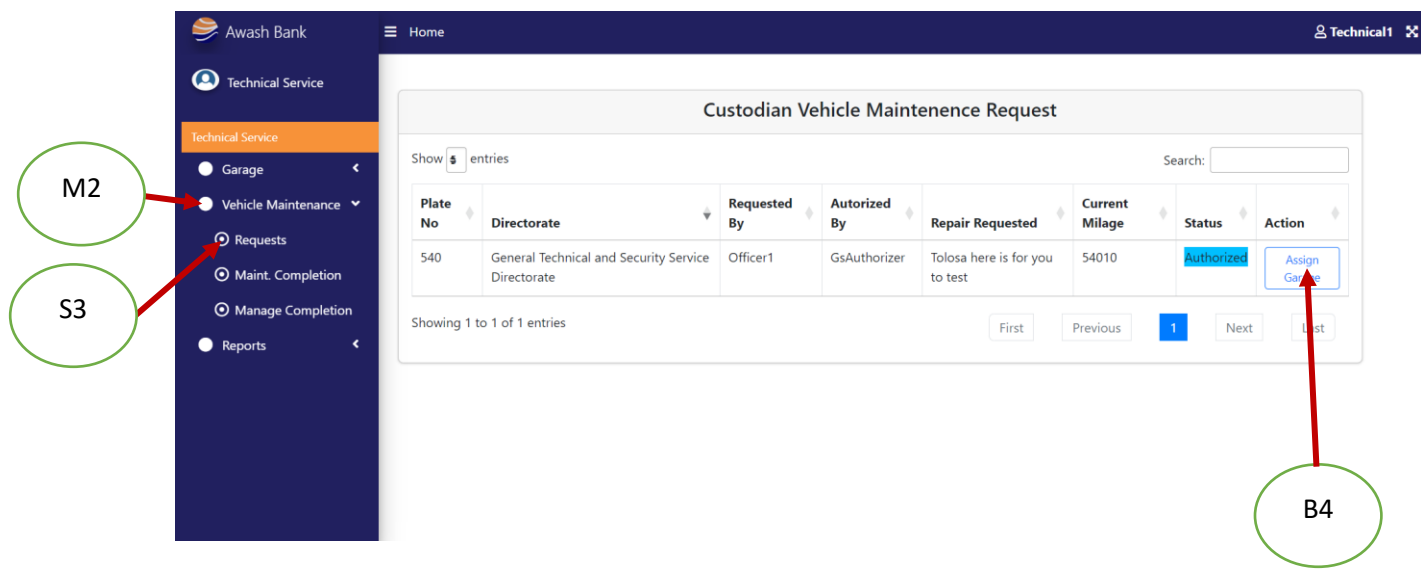

Figure 1.6: Vehicle Maintenance Menu
- Click on **Assign Garage** button(B4) (Fig:1.6), select garage from drop down(F2) (Fig:1.7), then click on **Assign** button(B5) (Fig:1.7) to assign garage